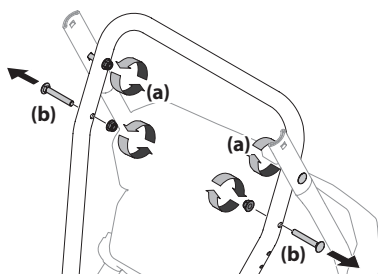
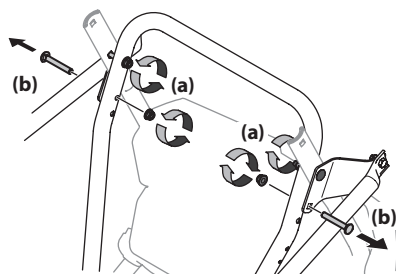

Figure 2-2
Figure 2-3
2. Loosen the top two nuts (a) securing the upper and lower handle and remove the two carriage screws (b) from the lower handle and set aside as shown in Figure 2-2 or Figure 2-3 for units with side supports.